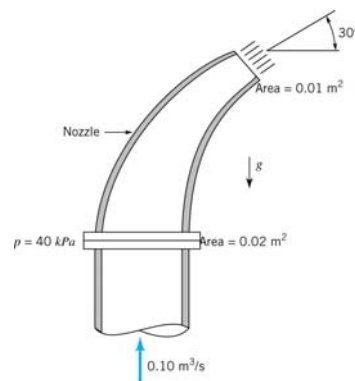

Fig. 3
3. A nozzle is attached to a vertical pipe and discharges water into the atmosphere as shown in Fig. 3. When the discharge is $0.1 \text{ m}^3/\text{s}$, the gage pressure at the flange is 40 kPa . Determine the vertical component of the anchoring force required to hold the nozzle in place. The nozzle has a weight of 200 N , and the volume of water in the nozzle is 0.012 m^3 . Is the anchoring force directed upward or downward? Assume that the density of water is 999 kg/m^3 .
9. A water jet pump is configured as shown in Fig. 3. The cross-sectional area of the jet is $A_j = 0.01 \text{ m}^2$, and the jet velocity 35 m/s. The velocity of the secondary stream of water $V_s = 4 \text{ m/s}$ and the total cross-sectional area of the duct is 0.08 m^2 . Assume that the jet and the secondary flows are mixed thoroughly and leave the pump at station (2) as a uniform flow. The pressure in the jet and secondary flows are equal at the inlet, station (1). Please determine the exit velocity, V_2 , and the pressure rise, $P_2 - P_1$. (Neglect the effect of viscous forces.)